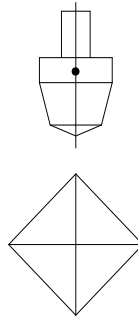

Fig 3
- c.) The round column of the indenter is marked with a red dot. Make sure the RED dot on the indenter is facing the frontal direction when it is installed and the focus of the diagonal line of the indentation should be aligned with the red dot. It is possible to make the alignment of the cross-shaped in the micro eyepiece line with the diagonal line of the indentation. If the indentation observed is not aligned with the cross-shaped line, please unscrew the screw on the indenter, turn the indenter a bit and then fasten the screw, and then make the alignment again through tests until the alignment is all right to your satisfaction (See Fig 3)